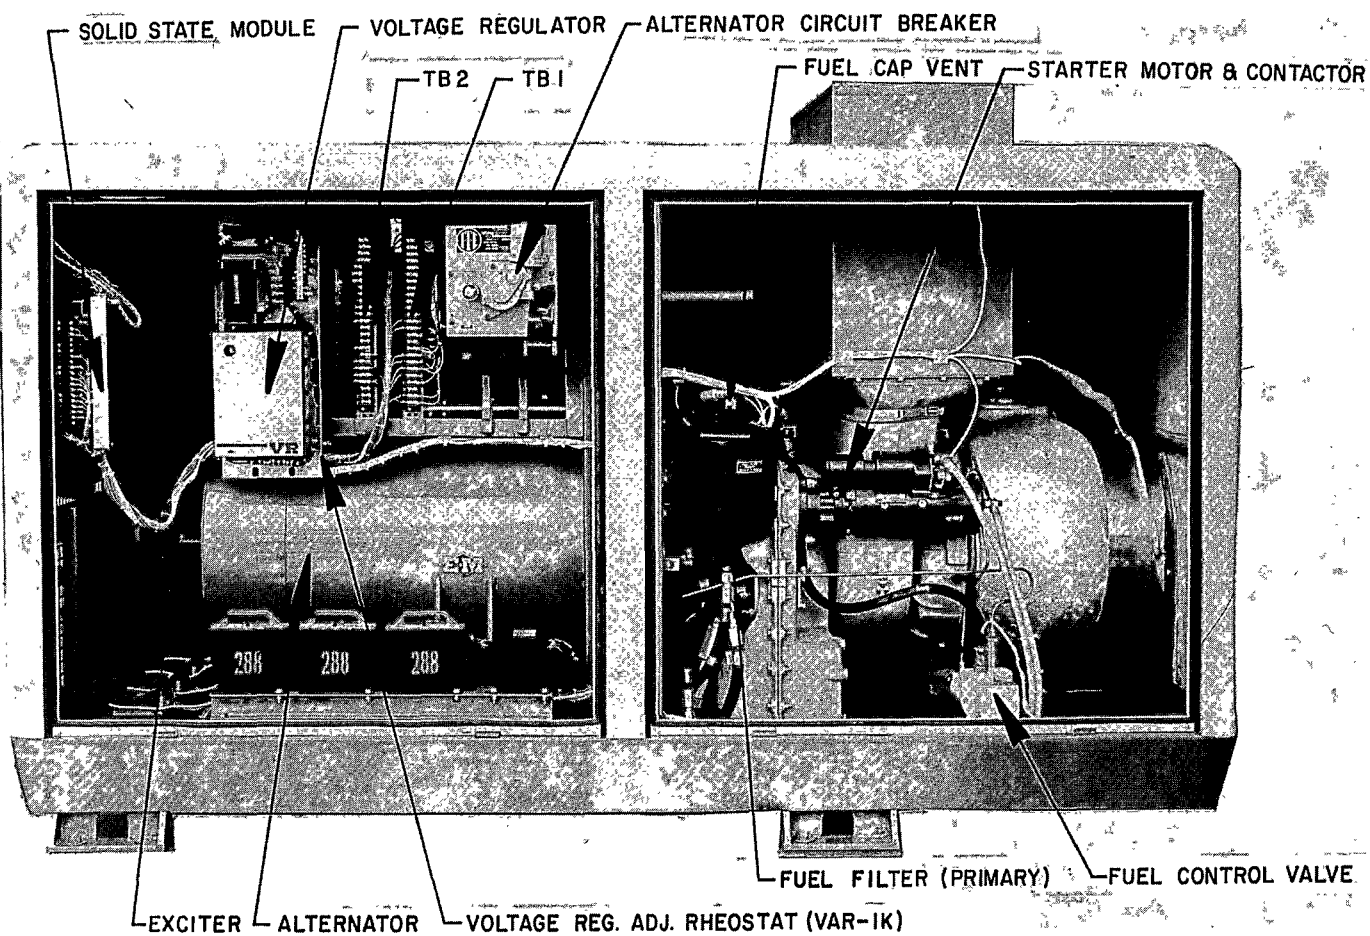

FIG. 1 RIGHT SIDE KS-20542 TURBINE ALTERNATOR WITH SOLID STATE MODULE
1.21 The KS-20542 turbine-alternator is shown in figures 1, 2, 3 and 4.